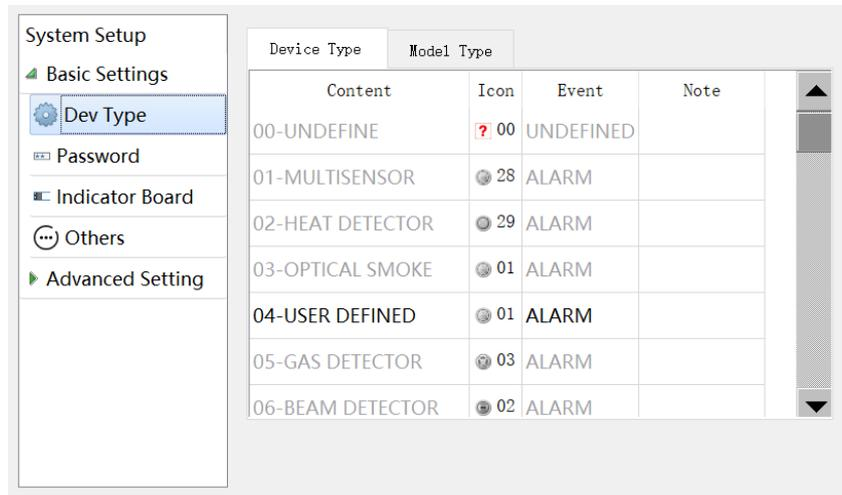

Fig. 5-2
- Device Type : clicking Dev Type in Basic Setting menu, the menu shown in Fig. 5-2 pops up. Users can define the name and picture of the device type according to their needs. Only the highlighted ones can be defined, and the gray ones are devices pre-sorted in factory and cannot be defined by user.